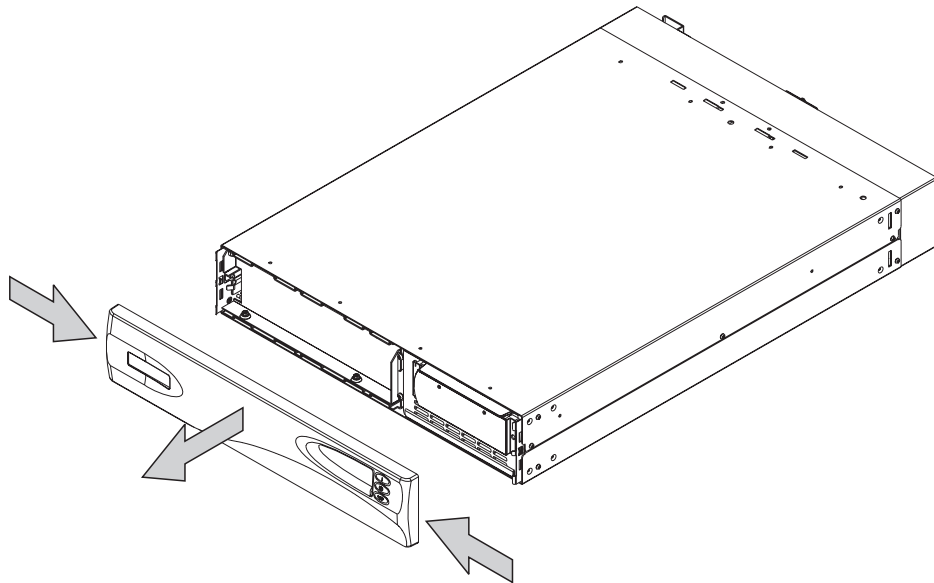

Figure 221. Removing the 2145 UPS front panel
2. Remove the front panel by pressing the sides inward, and pulling on both ends towards you (see Figure 221).